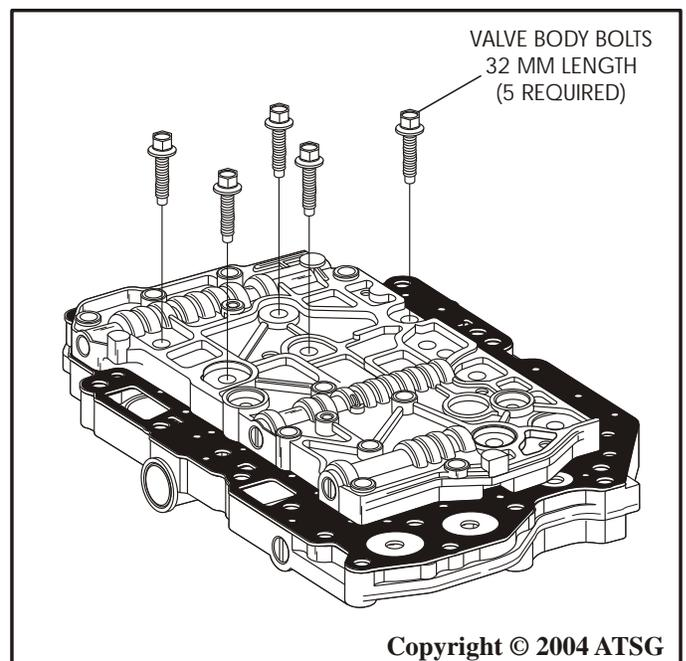

Figure 106
13. Install 5 valve body bolts 32 mm length, in the positions shown in Figure 106, and just finger tighten at this time.